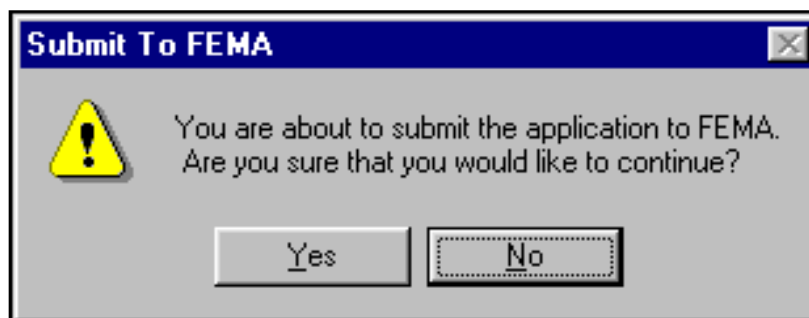

Figure 6-123: Final Submission Dialog Box
8. On the bottom left part of the tab, click the SUBMIT button. The Final Submission dialog box is displayed (Figure 6-123).